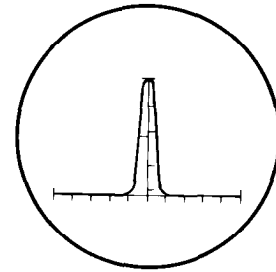

Figure 5
- () Turn the slug of coil L3 until the IF signal pip is centered on the screen base line. If the top of the pip is off the CRT screen, reduce the signal generator output until the complete pip pattern is visible, as shown in Figure 5.